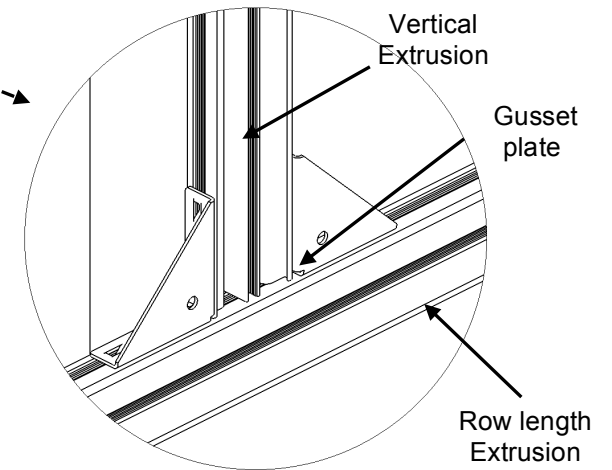

Fig. 13
15. Loosely install the Vertical extrusion to convenient location approximately equal distance along the containment row length. Each Vertical extrusion should have minimum two gusset plate with 3/8"-16UNC screws (Fig. 13).